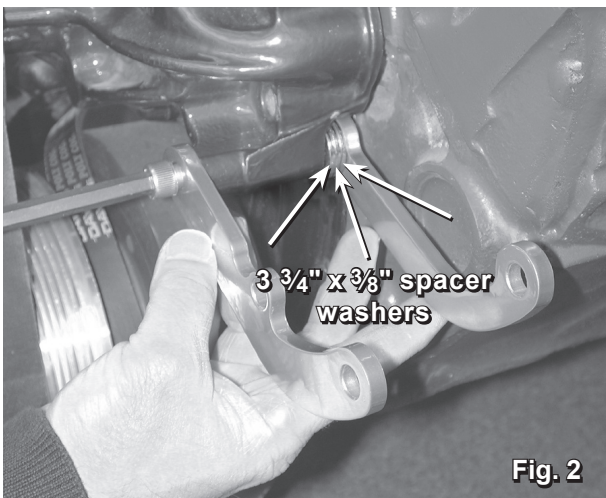

Fig. 2
2. Mount the lower support brackets that came with your kit to the water pump using the $\frac{3}{8}$ -16 x $3\frac{3}{4}$ " socket head bolt. Place three (3) $\frac{3}{8}$ x $\frac{3}{4}$ " diameter spacer washers between the water pump and the rear support bracket and start threads (fig. 2) (do not tighten at this time). Due to production variances in OEM and aftermarket water pumps the number of spacer washers required may change (read on).